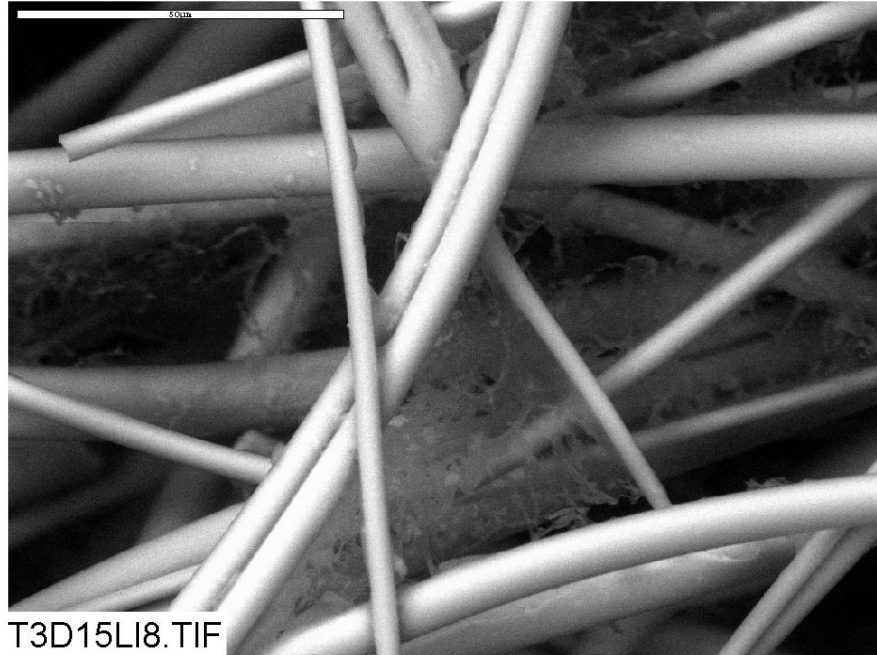
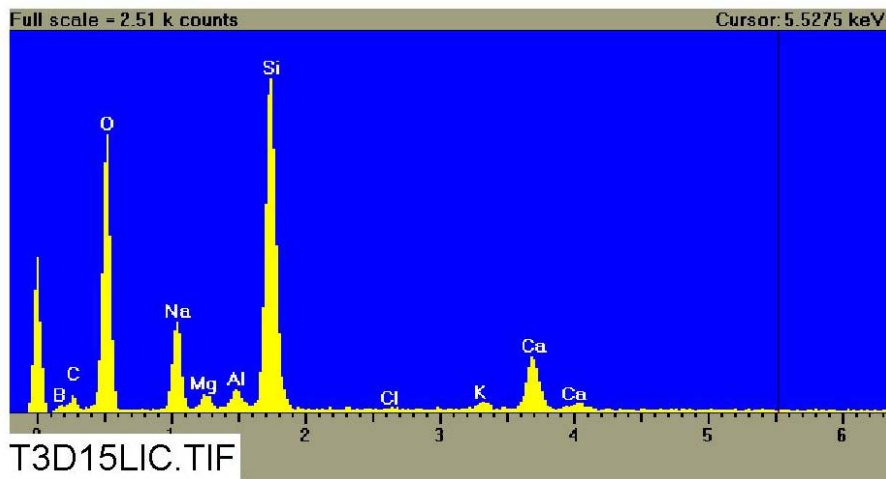

Figure B2-3. Environmental SEM image magnified 1000 times for a Test #3, Day-15 low-flow interior fiberglass sample. (T3D15LI8)
Figure B2-4. EDS counting spectrum for the flocculence deposits between the fibers on ESEM image shown in Figure B2-3. (T3D15LIC)
- Figure B2-3. Environmental SEM image magnified 1000 times for a Test #3, Day-15 low-flow interior fiberglass sample. (T3D15LI8) B2-6
- Figure B2-4. EDS counting spectrum for the flocculence deposits between the fibers on ESEM image shown in Figure B2-3. (T3D15LIC) B2-6